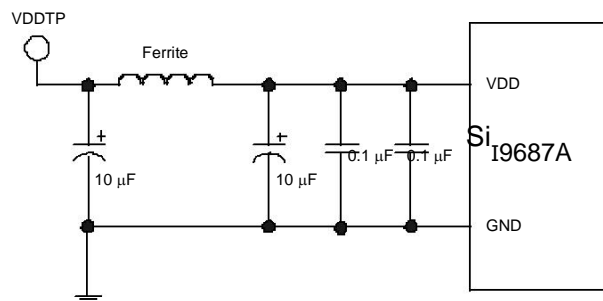

Figure 5. Test Point VDDTP for VDD Noise Tolerance Spec
1. The supply voltage noise is measured at test point VDDTP shown in Figure 5. The ferrite bead provides filtering of power supply noise. The figure is representative and applies to other VDD pins as well.